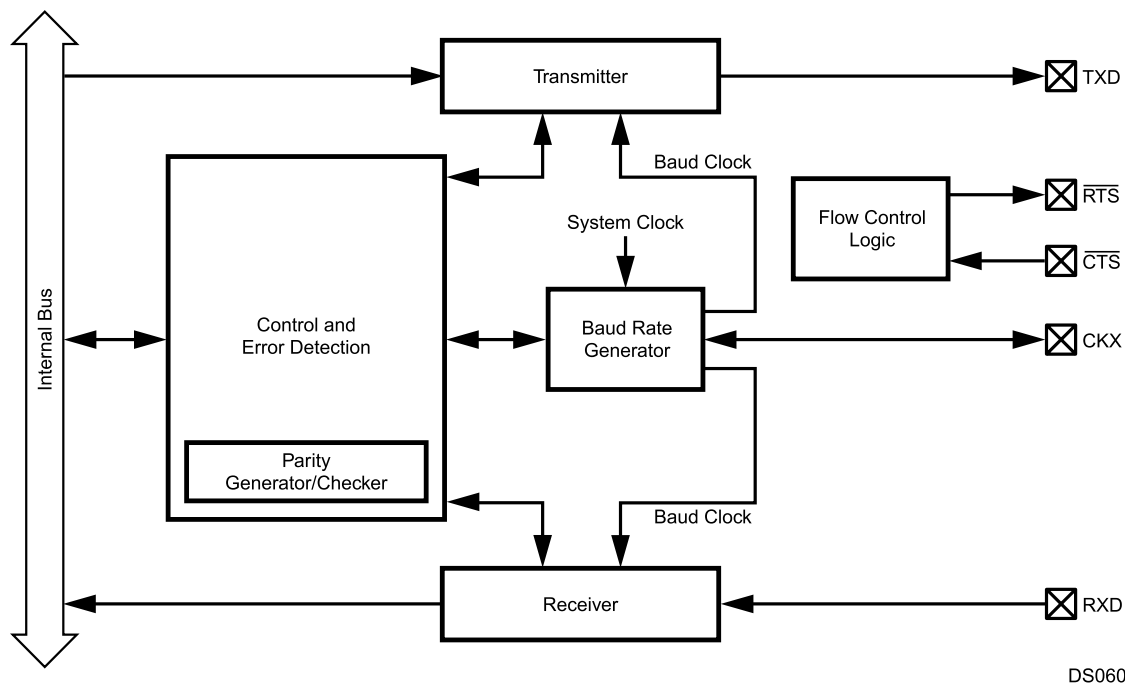

Figure 18-1. UART Block Diagram
**Figure 18-1** is a block diagram of the UART module showing the basic functional units in the UART: